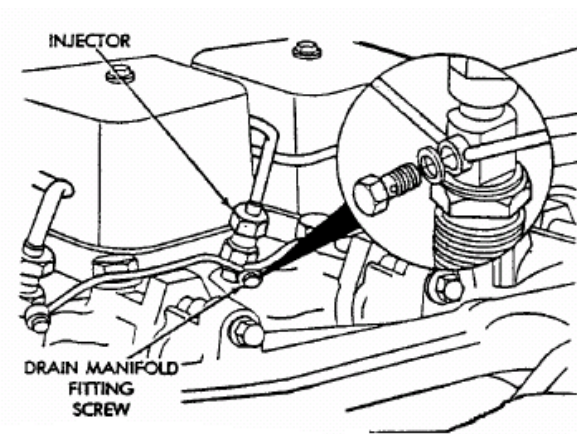

Fig 13: Fuel Drain Manifold Fittings - Typical
- 2: Remove drain manifold fitting screws (bolts) at each of the six injectors (Fig 13)